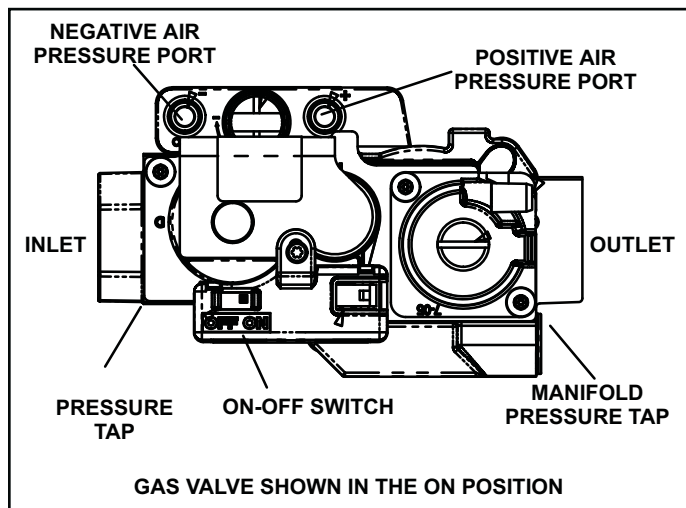

Figure 51. Gas Valve
See Figure 51
- Move gas valve switch to OFF. See Figure 51.
- Move gas valve switch to ON. See Figure 51.